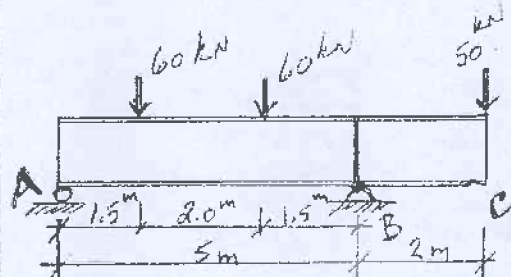

FIGURE A2
- A2. A overhanging steel I-beam, W610 x 241, of G40.21 350W, is made up of two lengths, AB and BC, as shown in Figure A2. Design a welded rigid connection at B to transfer both flexure and shear at B for the given loads.